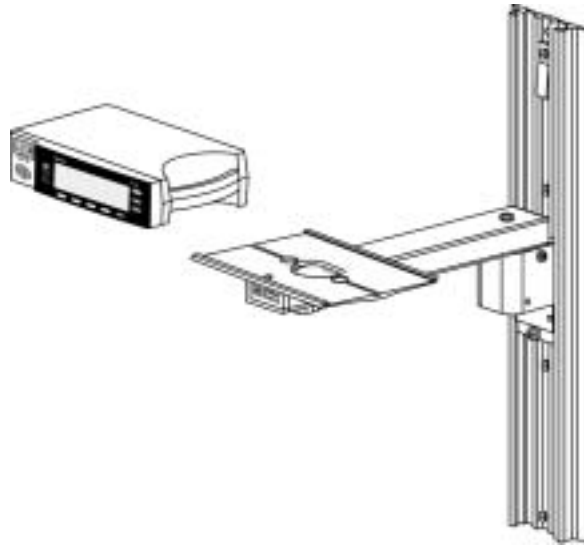

Figure 8: GCX Poly-Mount (vertical wall mount with 19-inch channel)
- GCX Poly-mount (vertical wall mount with 19-inch channel). See Figure 8 on page 106.
The vertical wall mount with 19-inch channel attaches to the N-595 pulse oximeter GCX mounting plate as shown in Figure 8 on page 106. For further instructions regarding connecting the vertical wall mount with 19-inch channel, refer to the illustrated directions for use included with the vertical wall mount with 19-inch channel.